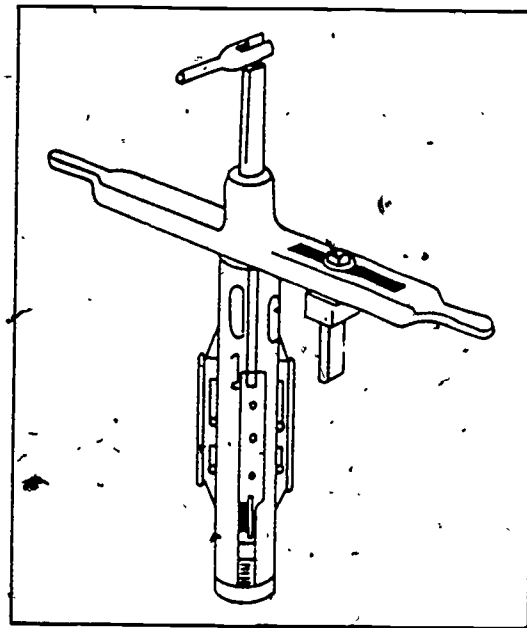

Figure 3-56. Fiber pipe tapering tool.
**Fiber pipe tapering tool.** The fiber pipe tapering tool, shown in figure 3-56, is used to cut a 2° taper on fiber pipe for making joints. It is designed with a center guide, which is fitted inside the pipe end to be tapered,